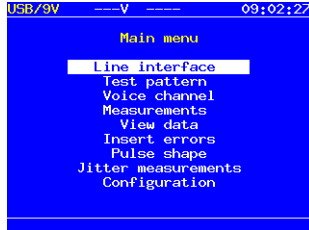

Figure 8.1. Main menu
8.1.1. BERcut-E1 graphical user interface (GUI) is a set of menu screens. Main menu is shown on Figure 8.1. To enter the Main menu press .